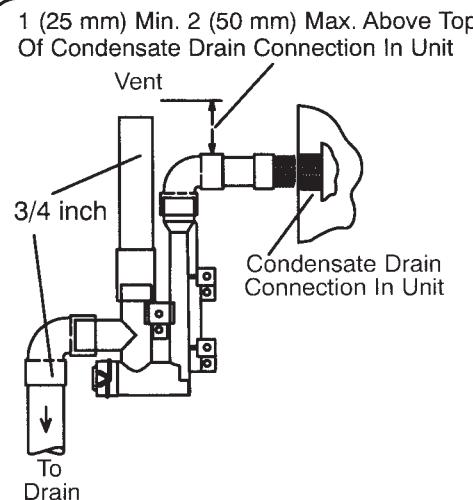

Figure 59. Trap / Drain Assembly Using 1/2" PVC or 3/4" PVC
This unit is designed for either right or left side exit of condensate piping in upflow applications. In horizontal applications, the condensate trap must extend below the unit. An 8" service clearance is required for the condensate trap. Refer to Figure 52 for condensate trap locations. Figure 59 shows trap assembly using 1/2" PVC or 3/4" PVC.
4. Install drain trap using appropriate PVC fittings, glue all joints. Glue the provided drain trap as shown in Figure 59. Route the condensate line to an open drain. Condensate line must maintain a 1/4" downward slope from the furnace to the drain.